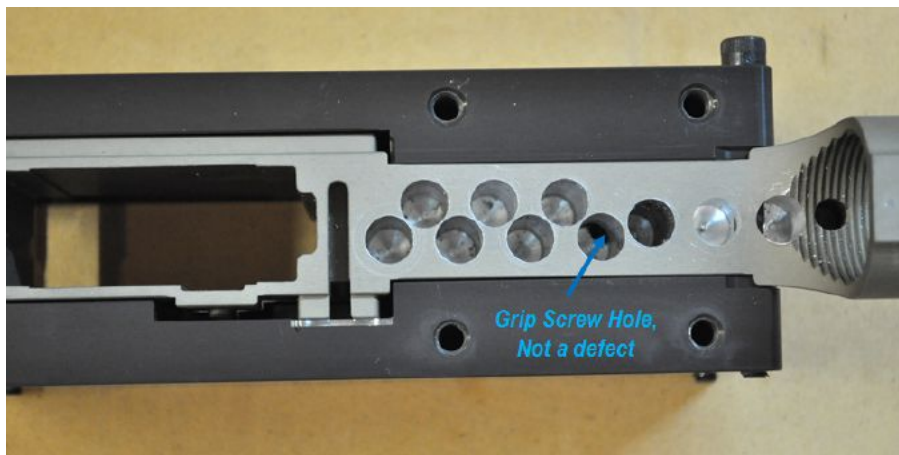

Figure 2.8 (right): lower with all roughing holes drilled and ready for the next step
- Figure 2.8 shows what the 80% lower should look like at this point.